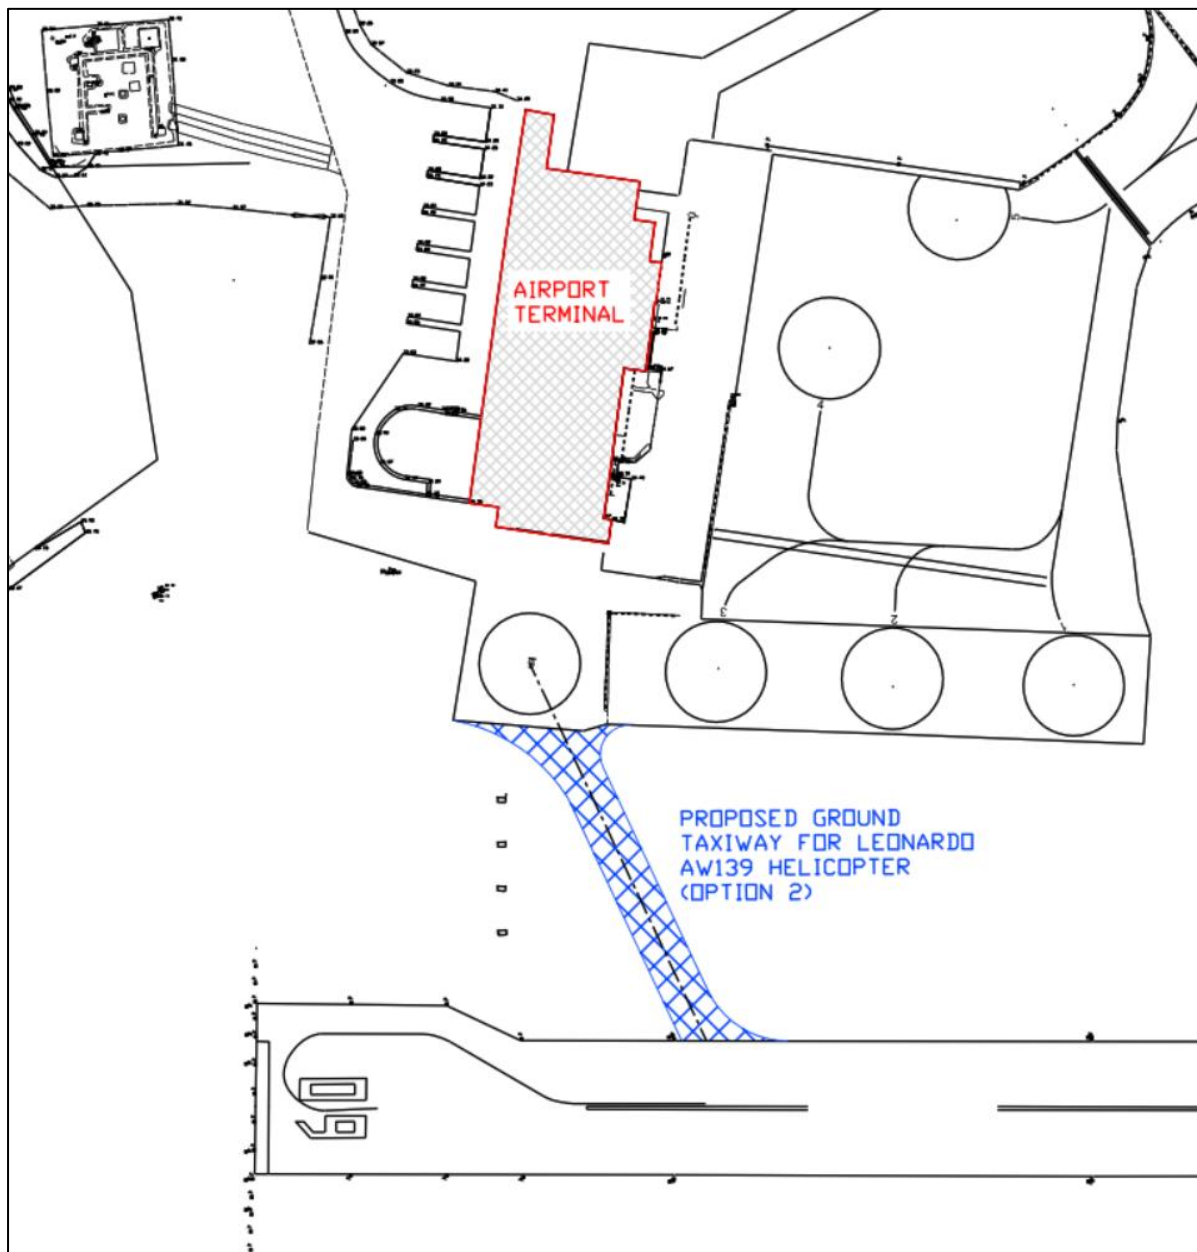

Figure 1: Option 2 - Proposed extent of new ground taxiway based on "ICAO Annex 14 Volume II Heliport"
- Description: The airport requires a new ground taxiway from runway 09 to the apron alongside the terminal to accommodate the following helicopter, Leonardo AW139. Figure 1 shows Option 2.